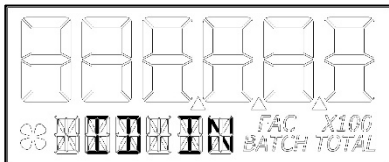

Figure C27-1
This menu is to allow the user to enter a pipe inner diameter (ID) which will allow the display to calculate and display the fluid velocity thru the meter. The pipe dimension unit can be selected as either inches (IN) or millimetres (mm) as preferred by user (see Figure C27-1).